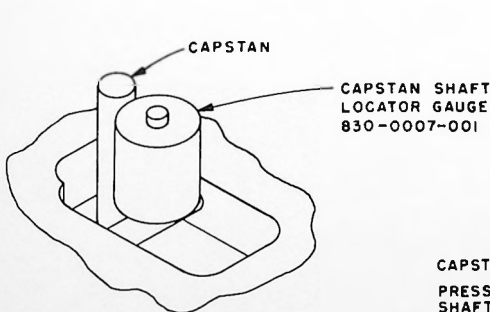

FIGURE 4-1
1. Remove the rubber pressure roller and place the round steel capstan shaft locator gauge on the pressure roller shaft as shown in Figure 4-1.